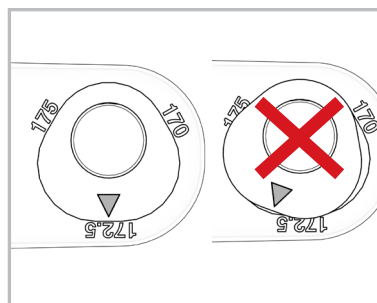

FIG. 6
- Position the arrow on the Tri-lobed washer facing the marking of the desired length. Make sure the washer is aligned correctly and sitting flush inside the crank (Fig. 6). Insert the Tri-lobed nut from the backside. Make sure the holes of the washer and nut are concentric with each other.